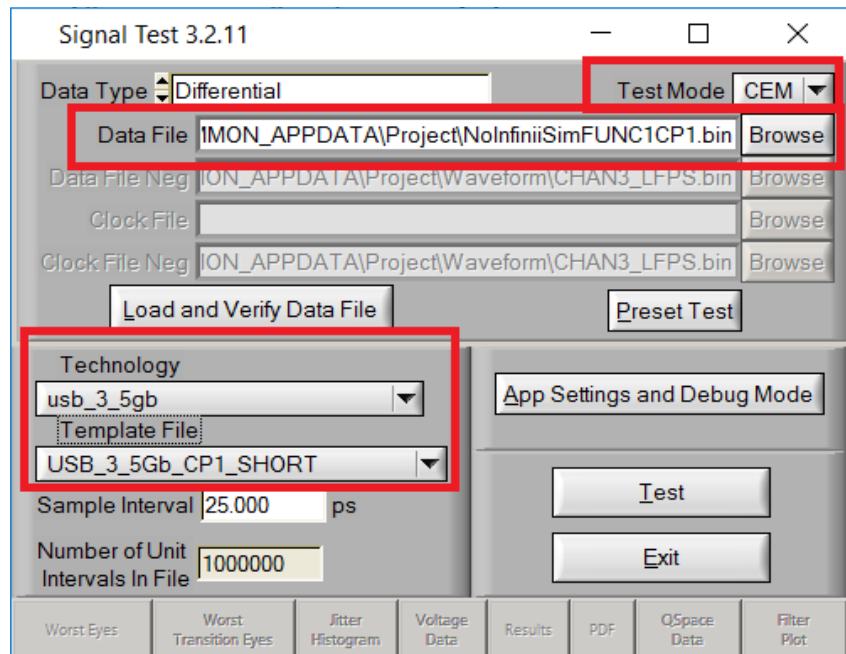

Figure 30 SigTest tool settings for measuring Short Channel RJ
- 11 Load the waveform file. Select the options for Technology and Template File as shown in Figure 30.